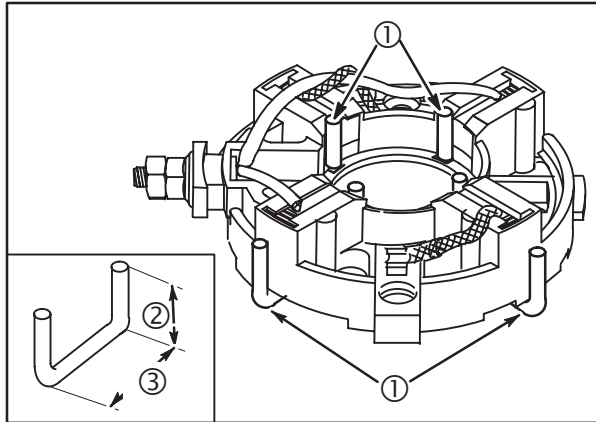

Fig. 22
End caps with radial compression type springs require 4 brush retainers (1) to hold brushes clear of armature commutator, Fig. 22.
Brush retainers can be made from Part #26634 control wire or similar material. The retainer is U shaped, with two legs  $1/2''$  (13 mm) high (2),  $3/4''$  (19 mm) long (3), Fig. 22, inset.